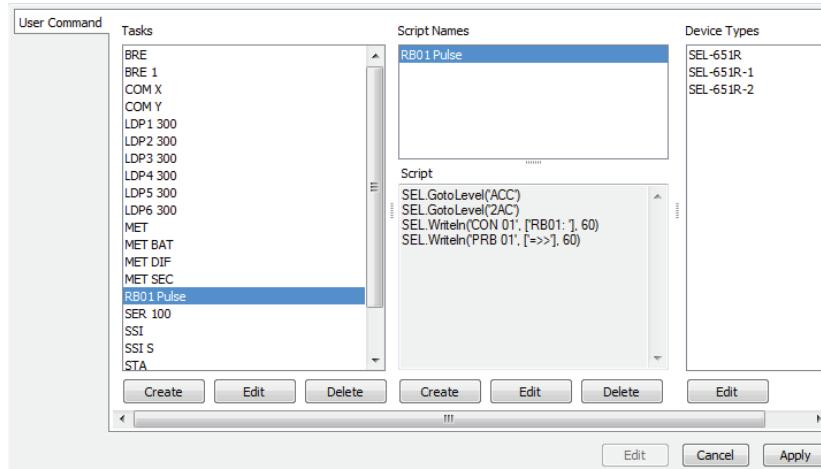

Figure 92 Devices Assigned
- Step 3. Select **Edit** under the **Device Types** column, select the SEL-651R family of devices, and select the double-chevron (») icon. *Figure 92* shows the SEL-651R family added to the **Device Types** section for the task.